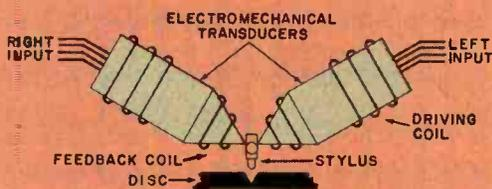

Fig. 2. A typical stereo cutting head uses negative feedback coils to counteract head resonances.
**Recording and RIAA.** The grooves in a stereo disc are cut by a chisel-shaped stylus, which is driven by two vibrating transducers mounted at right angles to each other (Fig. 2). The cutting stylus vibrates from side to side in step with the variations in the signal impressed on the cutter coils. This is called a "lateral cut," as opposed to the older "vertical cut" method. The resulting displacement of the groove back and forth about its center is known as *groove modulation*. The amplitude of this modulation cannot exceed a certain amount, or "crossover" will occur. That is, the